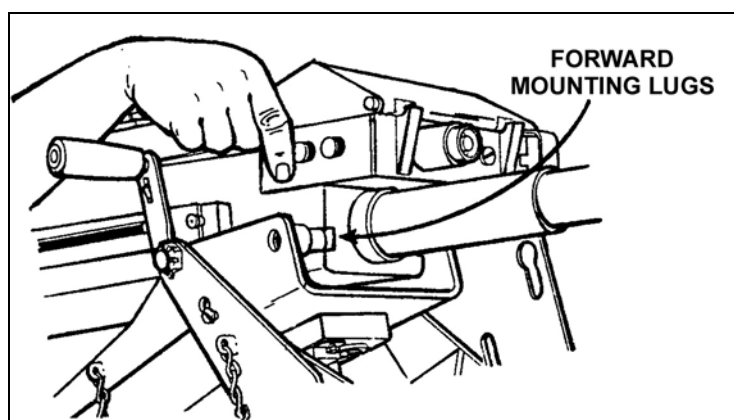

Figure 3-8. Mounting lugs.
(1) Lift the MK 19 into the gun cradle. One soldier holds the barrel while another holds the control grips. The one holding the grips stands between the trail legs of the tripod; the other straddles the front leg. The soldiers lift the MK 19, barrel first, onto the cradle.
(2) Align the grooves on the receiver with the lugs in the gun cradle, and slide the receiver forward (Figure 3-8).